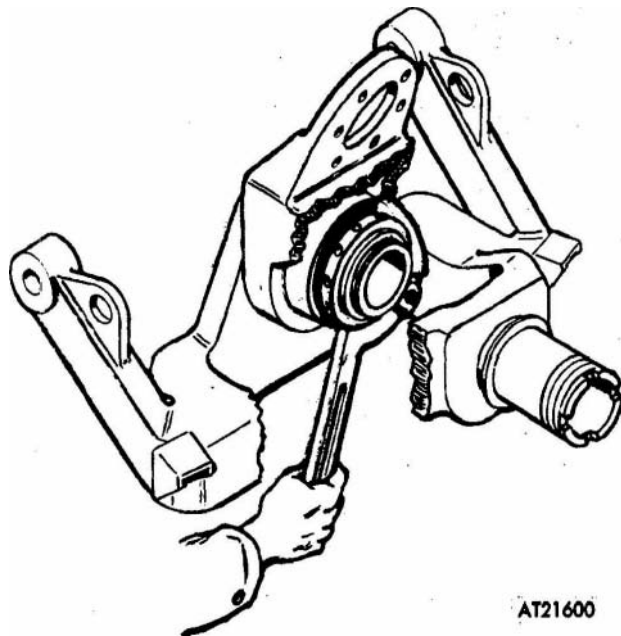

Figure 3-227. Tightening front bearing nut.
(1) Apply a light film of grease (G AA) to bearing contact surfaces of front and rear bearing supports (4 and 11) and yoke threads.
(2) Insert bearing (3) to front bearing support (4), align screw holes and secure with screw (1) and lock washer (2).
(3) Insert bearing (10) into rear bearing support (11), align screw holes and secure with screw (8) and lock washer (9).
(4) Install bearings (3 and 10) and front and rear bearing supports (4 and 11) on yoke (7).
(5) Connect bearing nut (5) to yoke (7) and tighten nut with spanner wrench (11602326) until serrations on bearing are fully engaged (fig 3-227).